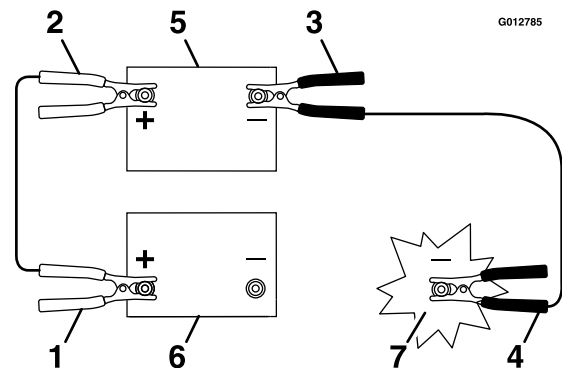

Figure 42
1. Connect the positive jumper cable—red (+) to the positive-battery terminal of the discharged battery as shown in Figure 42.
2. Connect the other end of the positive cable to the positive-battery terminal of the booster battery (Figure 42).
4. At the machine with a discharged battery, connect the other end of the negative jumper cable to the engine block, at a location away from the battery and belts (Figure 42).
2. Remove the negative cable from the engine block (Figure 42).
3. Remove the negative cable from the discharged battery (Figure 42).
4. Remove the positive cable from the booster battery (Figure 42)
5. Remove the positive cable from the discharged battery (Figure 42)